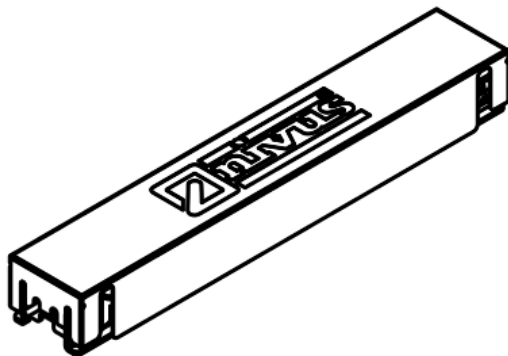

Fig. 10-73 Cover
1. Pull cover(s) (Fig. 10-73) off the mounting rail(s) (not screwed, only clamped).